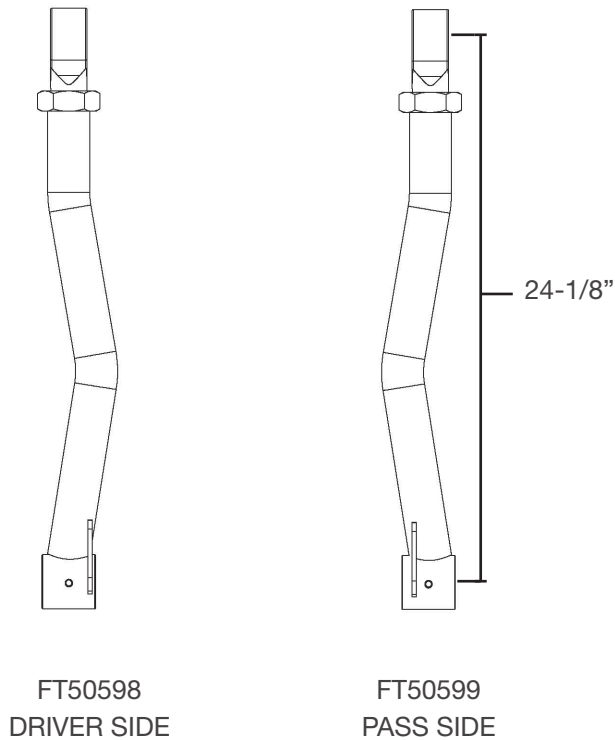

FIGURE 1 - STEP 4
4. Install FT50598 (Driver lower link) using the supplied FT50594 (Misalignments) and factory hardware. Torque to 160 ft-lbs. **SEE FIGURE 1 FOR LINK IDENTIFICATION AND PRE-SET MEASUREMENTS. SEE FIGURES 2-3 FOR INSTALLATION.** From the center of the rod end to the center of the barrel should measure 24-1/8" on both front links.